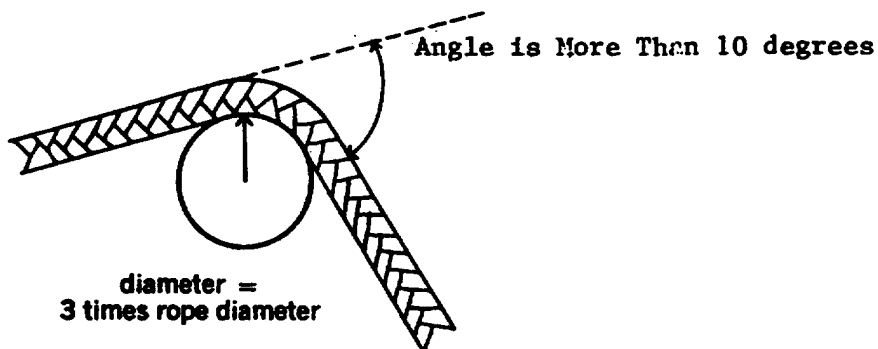

Fig. 2-26 Mooring line around a bitt
- 2 Usage. Where a rope bends more than 10 degrees around bitts or chocks or is bending across any surface, the diameter of the surface should be at least three times the diameter of the rope. (See **Figure 2-26**.)